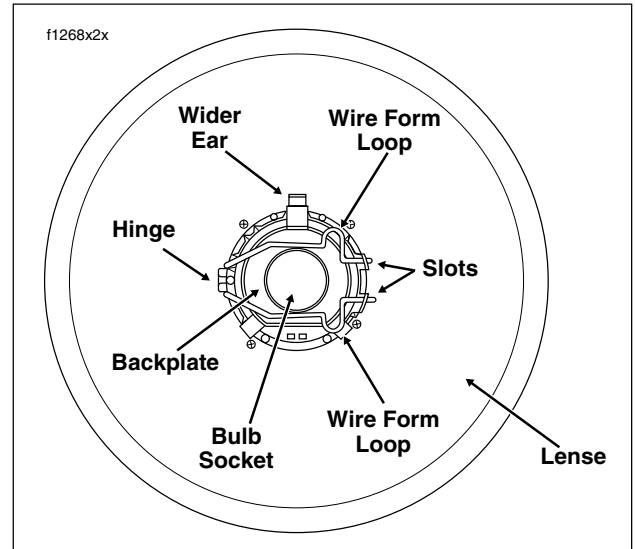

Figure 8-26. Headlamp Lens/Bulb Assembly (Rear View)
5. Push down on loops of wire form to free ends from slots on lens insert. See Figure 8-26. Use hinge to swing wire form out of the way.